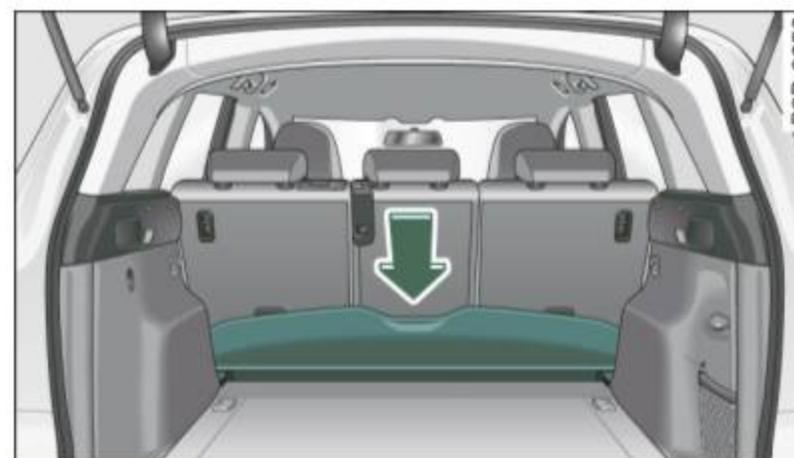

Fig. 82 Luggage compartment: storing the cover
- Fold the cover together and store it behind the rear seat ⇒ fig. 82.